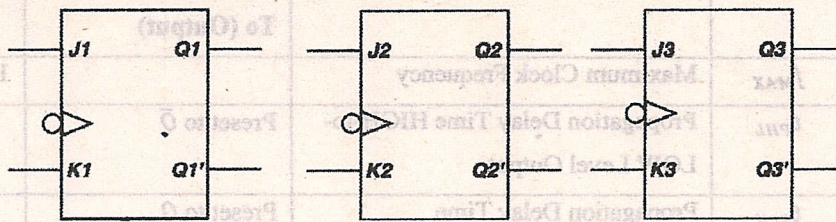

Figure 10
- a) Copy the diagrams to your answer script and show how to form a modulus 8 (MOD 8) asynchronous binary down counter by making the correct connections between the given negative edge triggered JK flipflops in Figure 10.